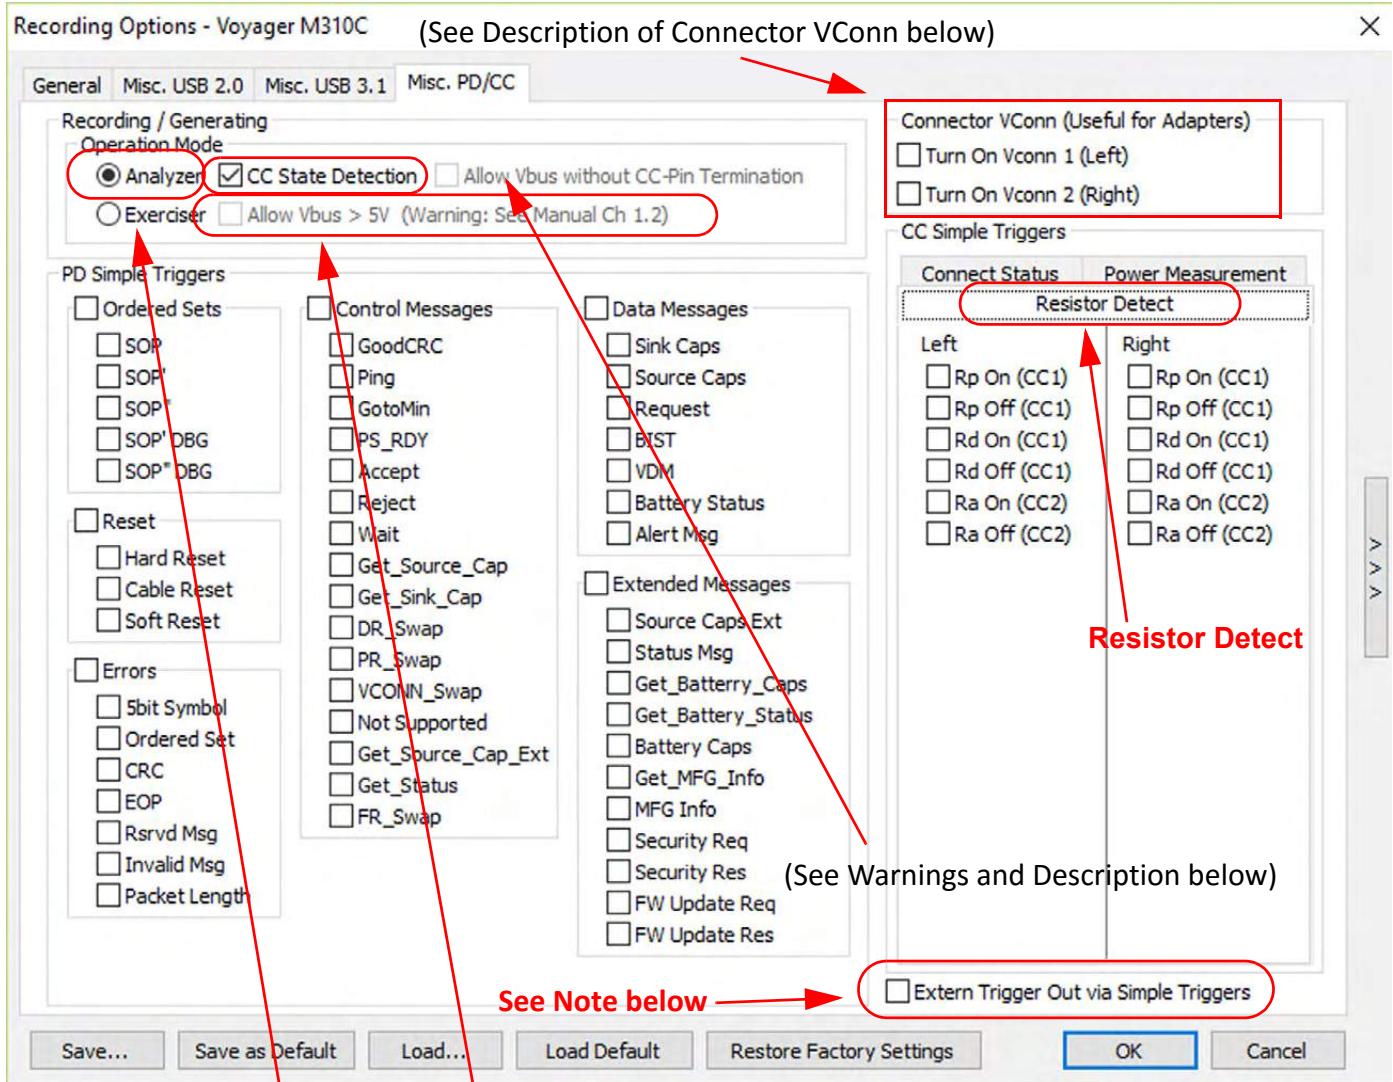

Figure 5.16: Voyager M310C: Recording Options for PD and CC Events
The Trigger options for Misc. Power Delivery (PD)/Configuration Channel (CC) events are the same in both Simple and Advanced Mode. For the Resister Detect Options see Figure 5.16 on page 213.